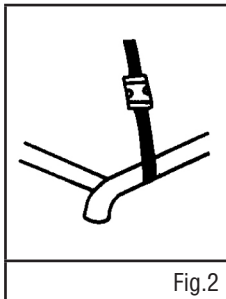

Fig.2
1. Rail Method: Loop the straps around the cross and side rails. Fasten the buckles and tighten all of the straps securely and evenly. See figure 2.